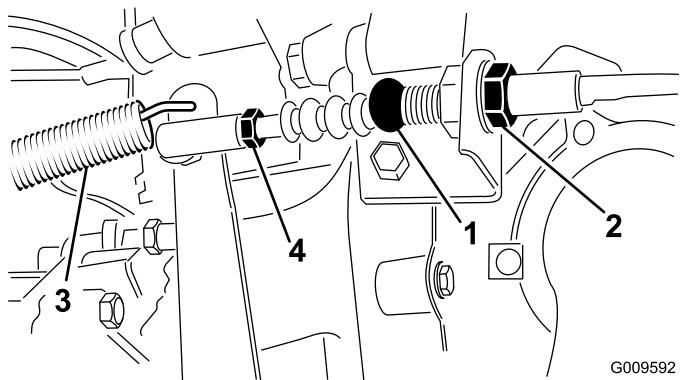

Figure 56
1. Loosen the jam nuts securing the clutch cable to the bracket on the bell housing (Figure 56).